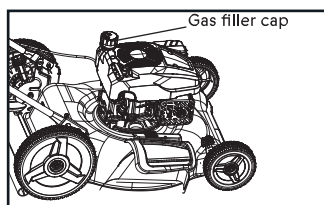

Fig. 7
As shown in Fig. 7.
- Clean the area around the gas filler cap before removing the cap. Remove the warning tag, and check the fuel level (see Fig. 7).